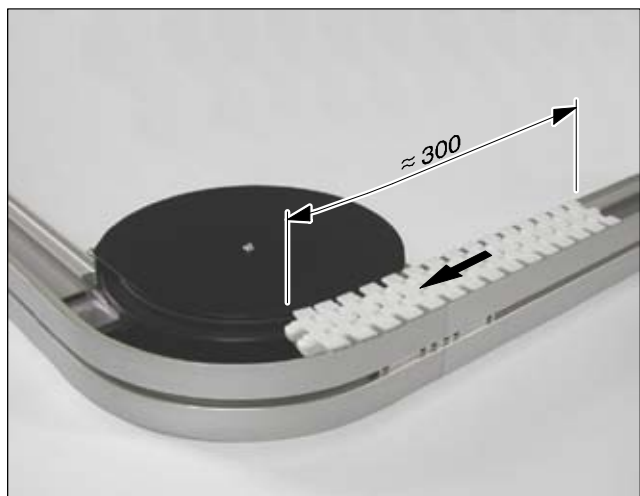

Fig. 25: Checking line run
- To check the line's smooth running action, a chain section of approx. 300 mm in length is pushed through the entire line run in conveying direction (see Fig. 25). It must be possible to push the chain section forwards applying little force.